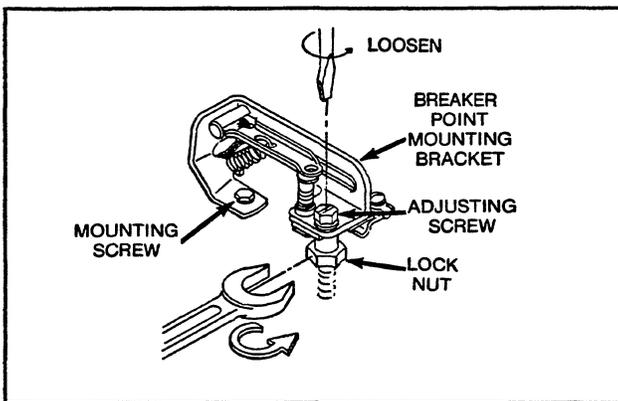

Fig. 21 — Remove Condenser and Points
Breaker points and condenser are held by one (1) mounting screw and a breaker point adjusting screw and lock nut, Fig. 21. Remove mounting screw holding condenser and mounting bracket. Loosen lock nut counterclockwise and then turn breaker point adjusting screw counterclockwise until breaker points and condenser can be removed as an assembly.